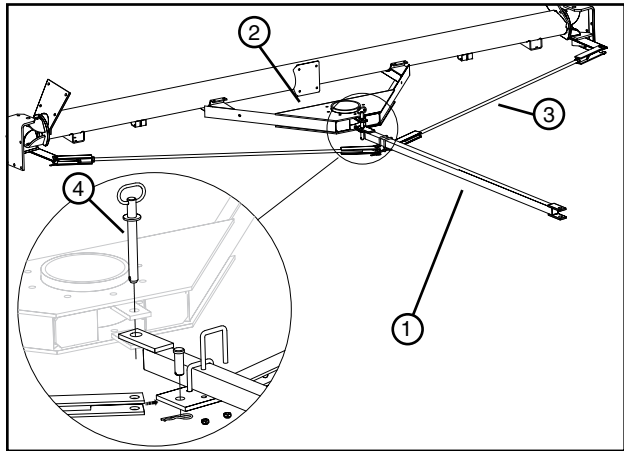

Figure 80-1 1. Tongue 2. Hose Pull frame 3. Tie Rod 4. Torque Pin
1. Attach tongue with tie rods to the hose pull frame with torque pin. See figure 80-1.